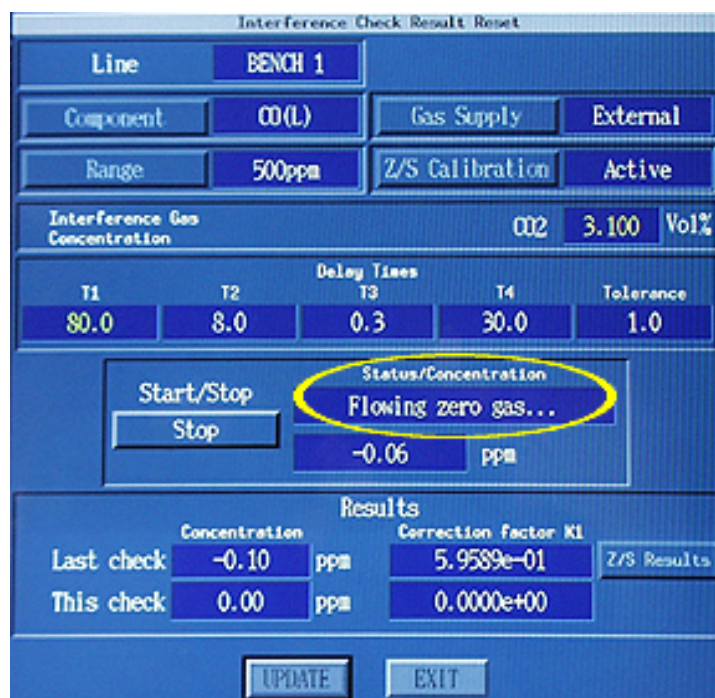

Figure 17
- 119 During the test the following status indications will be sequentially displayed in the “Status/Concentration” window. See Figure 17. Flowing Zero Gas, Reading Zero, Flowing Interference Gas, Measuring, Purging with Zero Gas, End